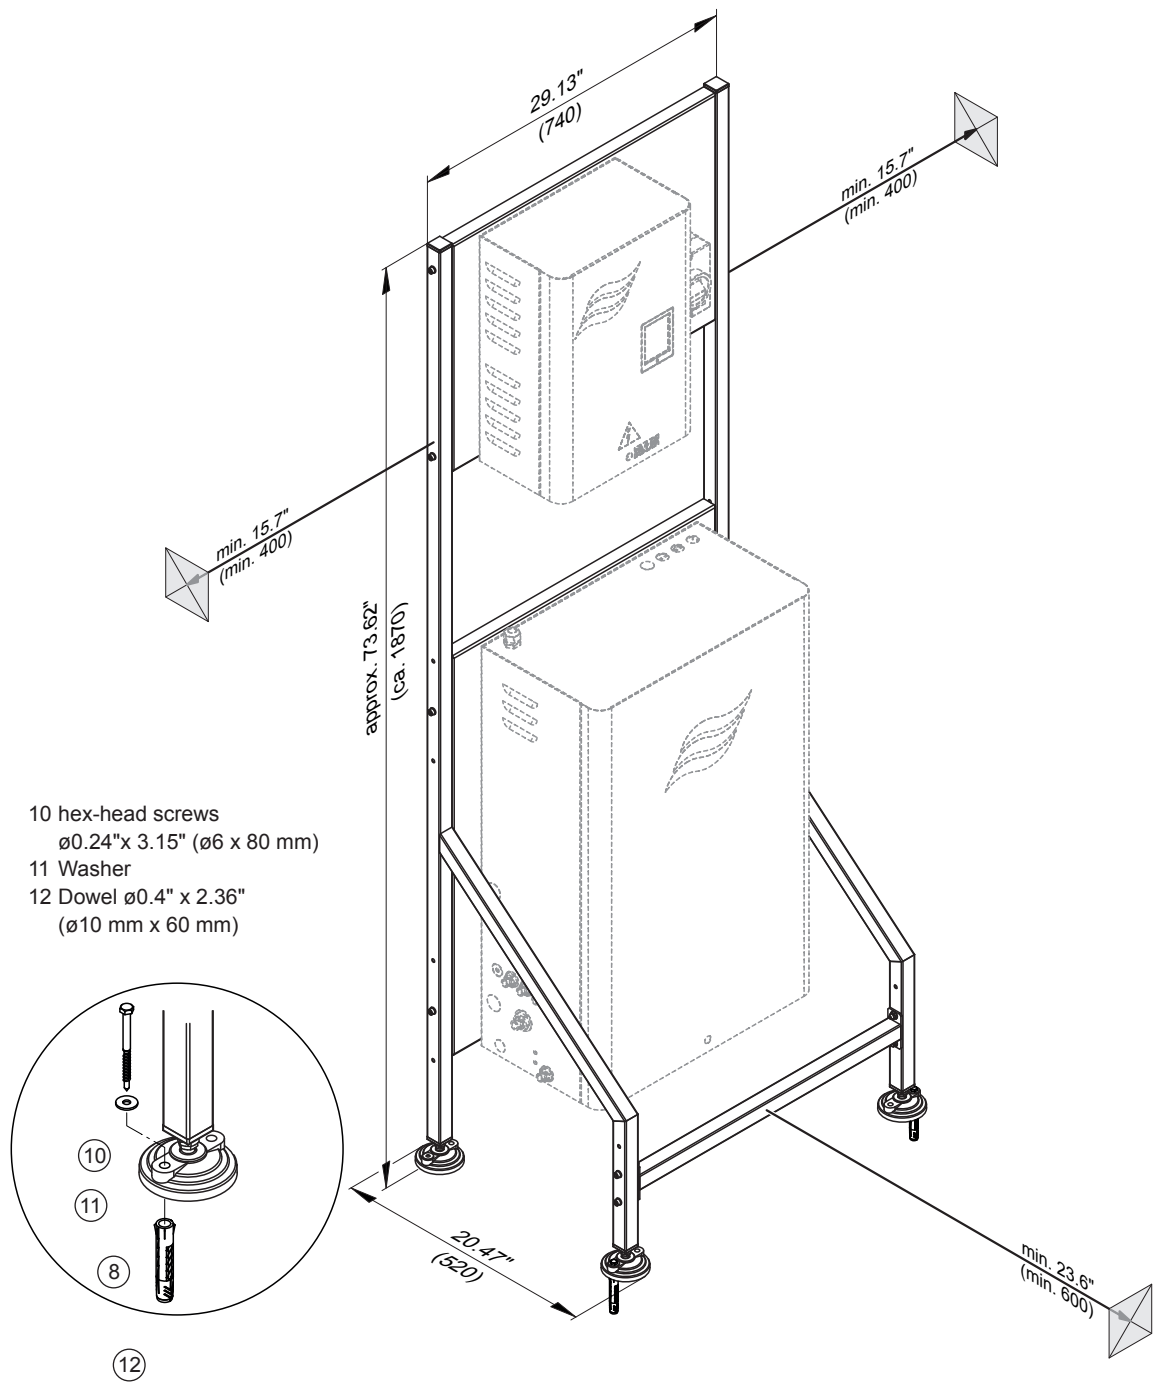

Fig. 35: Fixing the mounting rack to the floor- dimensions in Inch (mm)
- the central unit and the control unit which are mounted to the mounting rack are **freely accessible** with sufficient space available for maintenance purposes (**minimum clearances** showed in Fig. 35 **must be adhered to**).